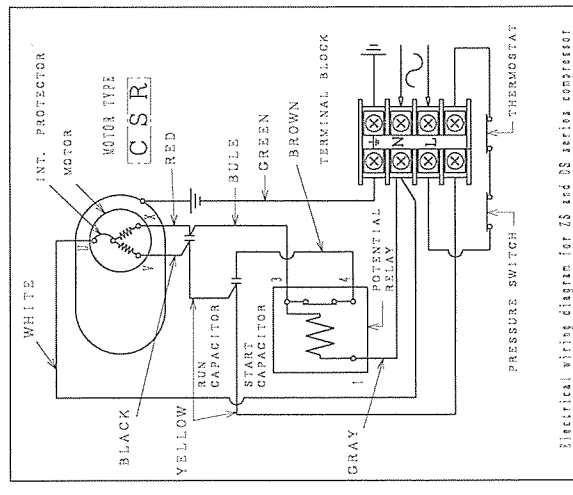

Fig. 1 Diagram
5. The circuit diagram of Fig.1 is indicated inside a lid.